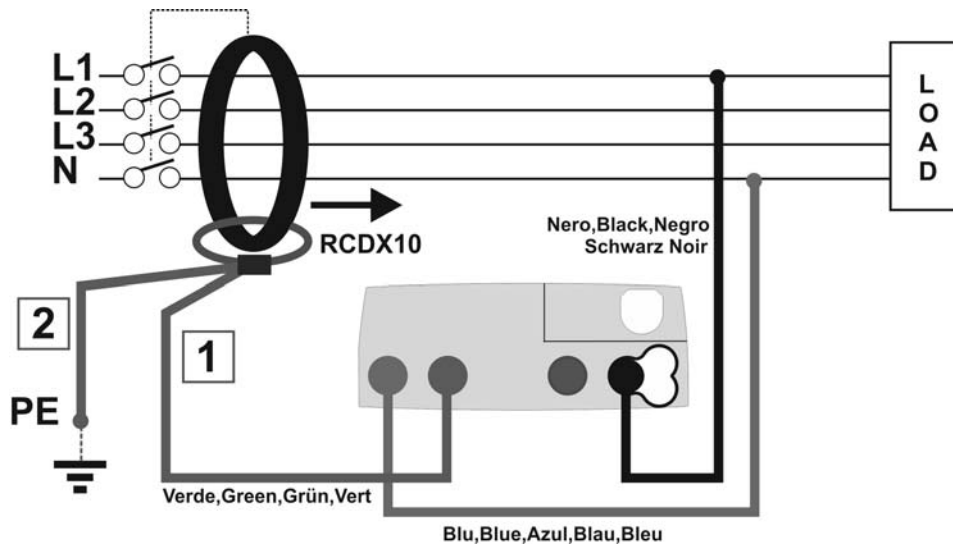

Fig.1: Connection of the accessory RCDX10
- Always connect the cable corresponding to number "1" to the instrument and the cable corresponding to number "2" to the ground (see Fig.1)